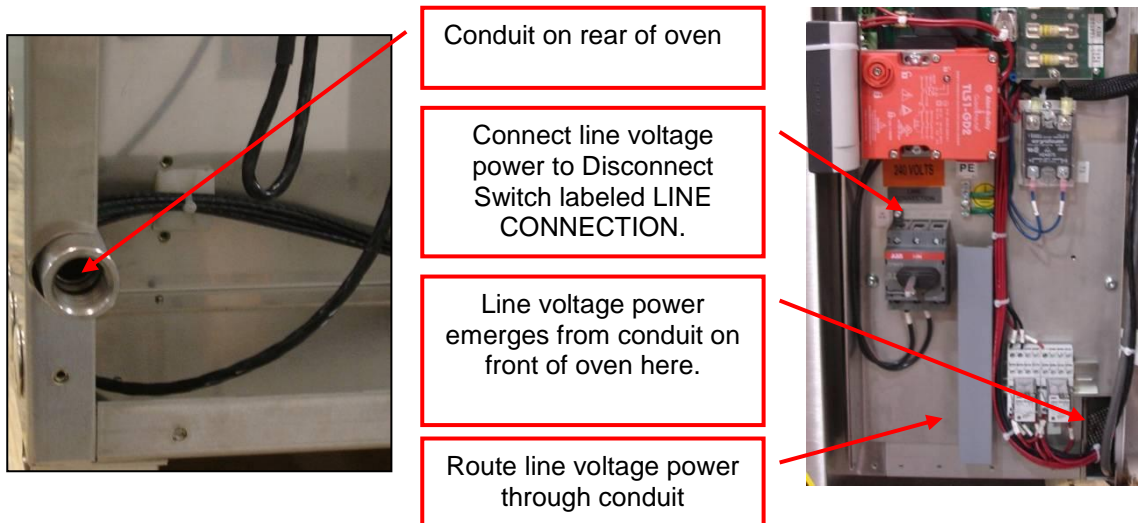

Figure 9. Conduit entrance at rear of oven and open front panel.
<p>The oven must be hardwired directly to the disconnect switch on the equipment panel (Figure 9).</p>
- Run line voltage power through the conduit from rear of oven to front (Figure 9). Consult electrical drawings included with the oven for details.
- Connect the line voltage power to the disconnect switch labeled **LINE CONNECTION** (Figure 9).